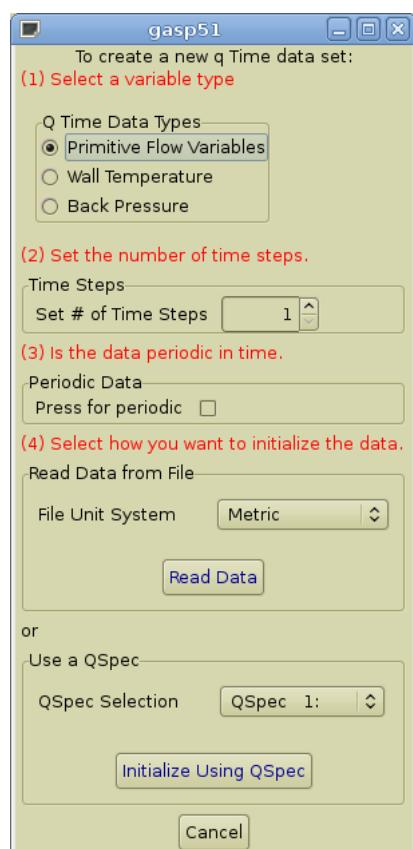

Figure 11.10: The window used to create a new Q Time data set.
1. Select the **New** option. Selecting this will bring up the window shown in Fig. 11.10 on pg. 199.